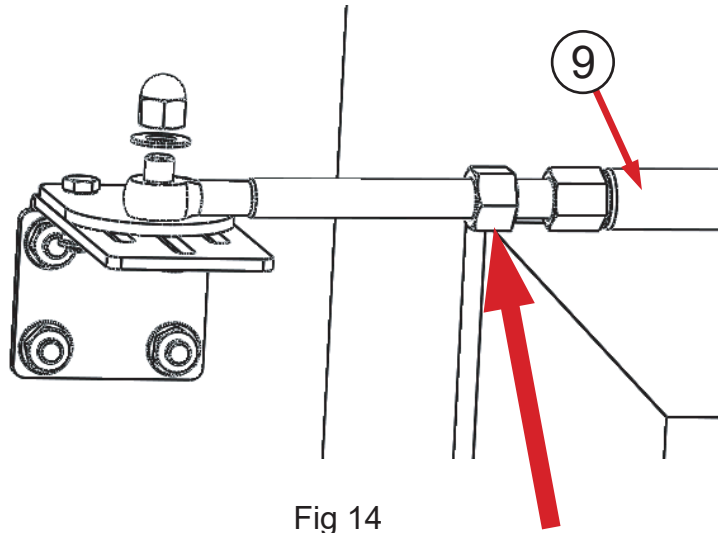

Fig 14
13. After installation all ok, tighten up the nut of the ⑨ connection rod as Fig 14.